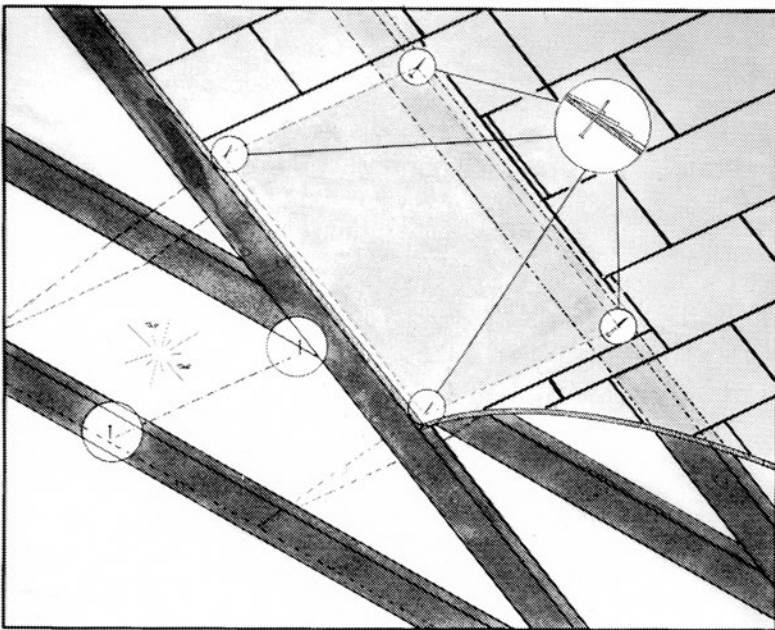

Figure 1
1. Location: (Figure 1)
2. Curb Opening: (Figures 1 & 2)